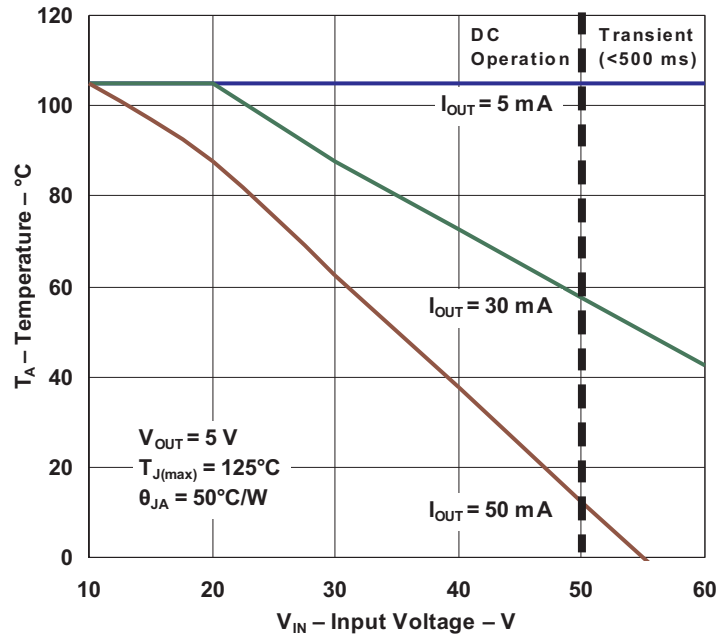

Figure 1. Safe Operating Area
- (1) Stresses beyond those listed under *Absolute Maximum Ratings* may cause permanent damage to the device. These are stress ratings only, and functional operation of the device at these or any other conditions beyond those indicated is not implied. Exposure to absolute-maximum-rated conditions for extended periods may affect device reliability.
- (2) Transient: 500 ms for  $V_{IN} > 50 V$
- (3) The thermal data is based on using JEDEC 51-5. The copper pad is soldered to the thermal land pattern and using 5 by 8 thermal array (vias). Correct attachment procedure must be incorporated.
- (4) The thermal data is based on using JEDEC 51-7. The copper pad is soldered to the thermal land. No thermal vias. Correct attachment procedure must be incorporated.
- (5) The junction temperature must not exceed 125°C. See Figure 1 to determine the maximum ambient operating temperature versus the supply voltage and load current. The safe operating area curves assume a 50°C/W thermal impedance and may need to be adjusted to match actual system thermal performance.